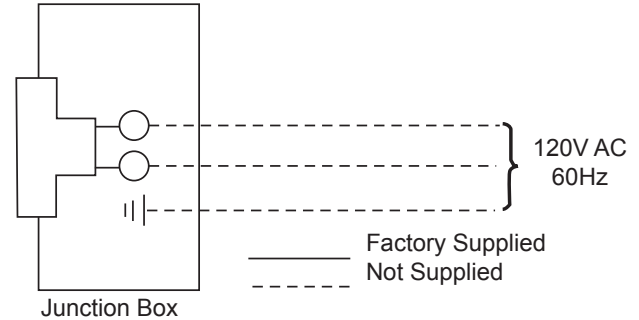

**Figure 53 -
3. The junction box cover has a factory installed "romex" style strain relief connector. After connecting the wires, route the wire leads through this connector. Refer to the wiring diagram in *Figure 53*